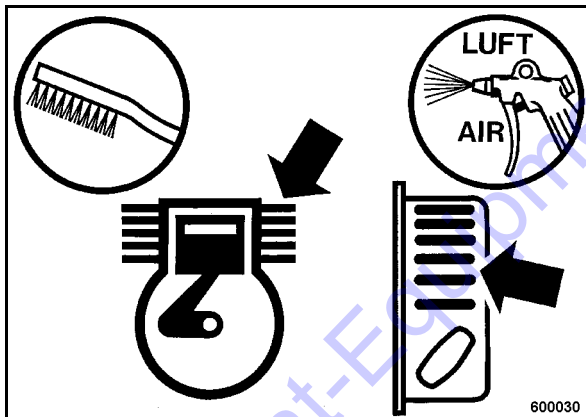

Fig. 48
- Loosen dried on dirt with a suitable brush (Fig. 48) from all cooling fins and cooling air intake openings and blow it off with compressed air.